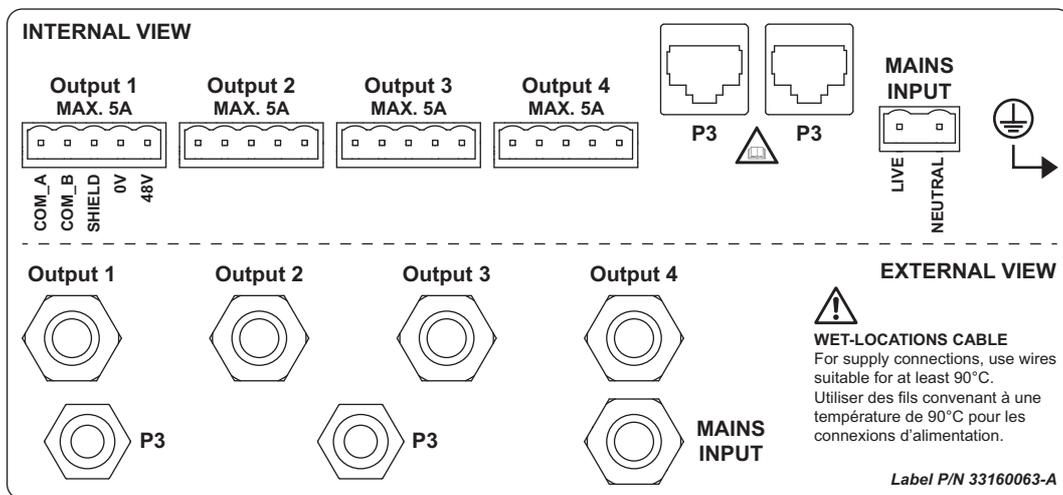

Figure 5: Power and data connections, internal and external views
6. Refer to Figure 5. Connect the live conductor (with brown or black insulation) to the live terminal. Connect the neutral conductor (white or blue insulation) or in some cases the second live conductor to the neutral terminal.
3. Remove the sealing cap from one of the holes marked **P3** in the housing (see EXTERNAL VIEW in Figure 5 on page 10).
6. Referring to Figure 5,